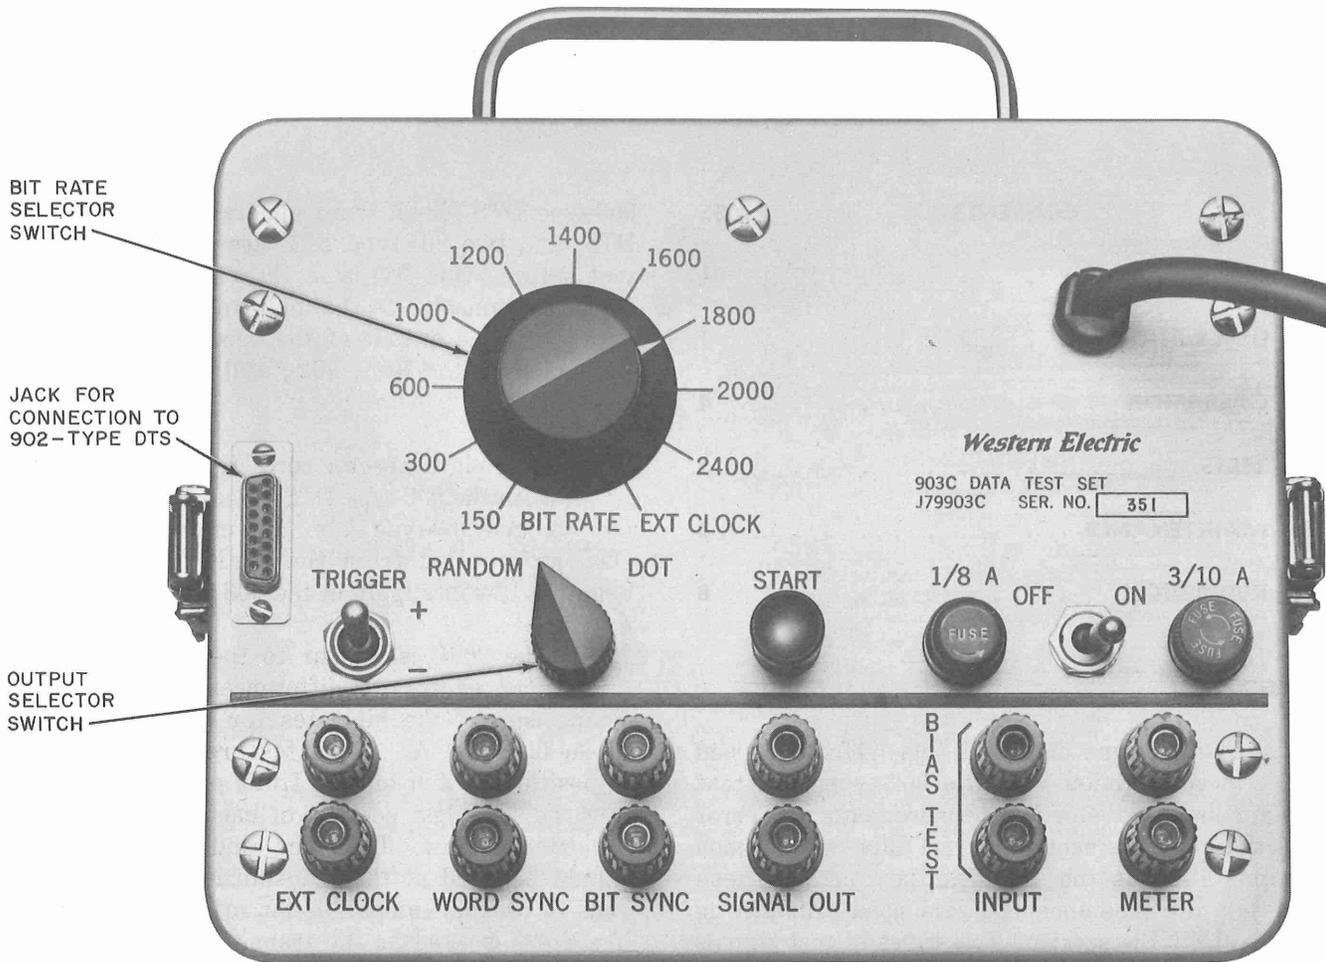

Fig. 1—903-Type Data Test Set
1.03 The 903-type DTS (Fig. 1) is designed to operate with the 901- and 902-types DTS. Distortion and error measurements may be made with an arrangement as shown in Fig. 2. Two
1.05 The 903C is similar to the 903A and 903B sets, except for differences in bit rates. A comparison of the bit rates for the three sets is given in Table A. Bit rates are selected by an 11-position switch on the front panel of each set (Fig. 1). The last position of each switch provides for external sync. The same kind of 903-type DTS should be used at the transmitting and receiving ends to provide compatible bit rates. For example, if a 903C is used at the transmitting end, a 903C DTS should also be used at the receiving end.